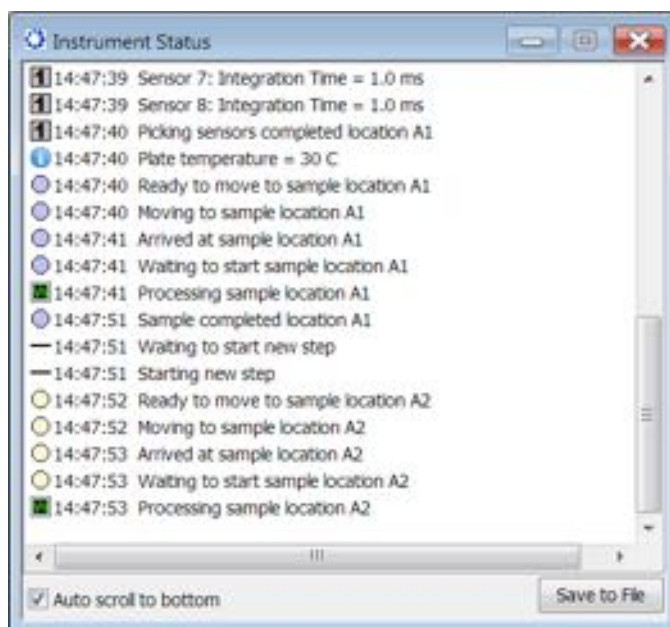

Figure 9-58: Instrument Status Log
5. Optional: Click **View > Instrument Status** to view the log file (see Figure 9-58).